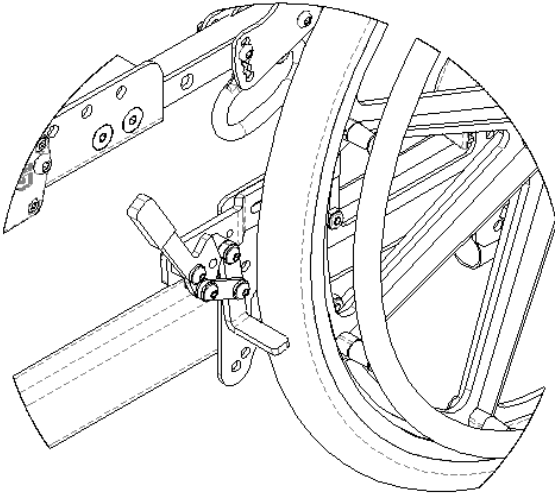

Figure 10.22: *Push to Lock Wheel Locks (Standard)*
1. To engage the push to lock wheel lock (see Figure 10.22), push the lever forward, away from the wheel, until it locks into place.